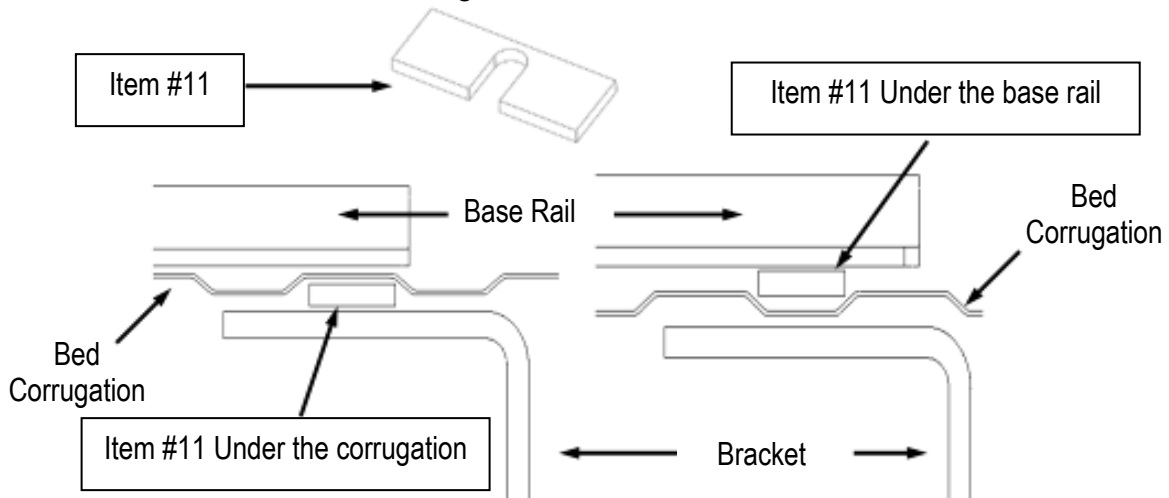

Figure 3
3. Reposition the bed rails in the bed so that the square 5/8" hole in the end of each rail is lined up over the drilled holes. Place item #12 (3/4" spacer block) under ends of each bed rail, in line with the drilled holes as shown on Figure 3.